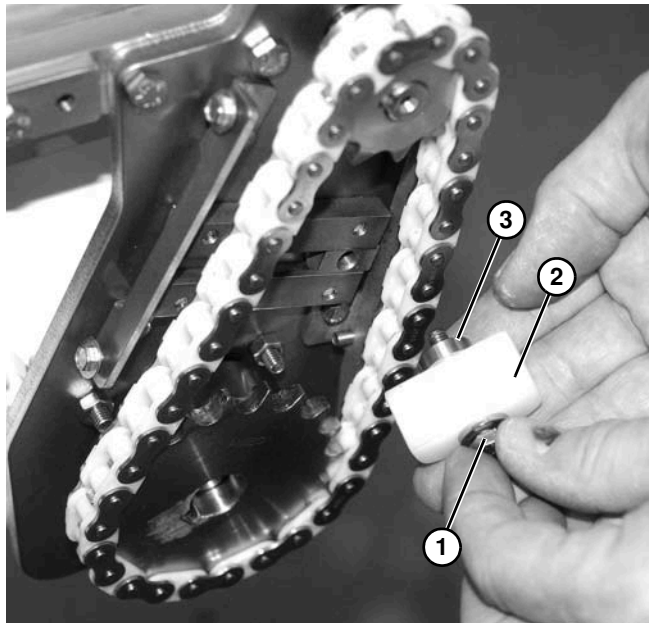

Figure 58
10. Install screw and washer (**Figure 58, item 1**), timing chain tensioner (**Figure 58, item 2**), and spacer (**Figure 58, item 3**) onto drive mounting bracket.